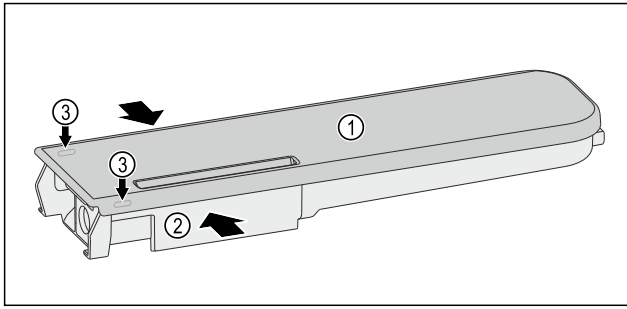

Fig. 195
- ▶ Push the water tanks Fig. 195 (2) together, leverage the cover Fig. 195 (1) carefully over the latching tabs Fig. 195 (3) and lift it up.
- ▶ Move the cover Fig. 195 (1) slightly forwards and back, and remove to the top.